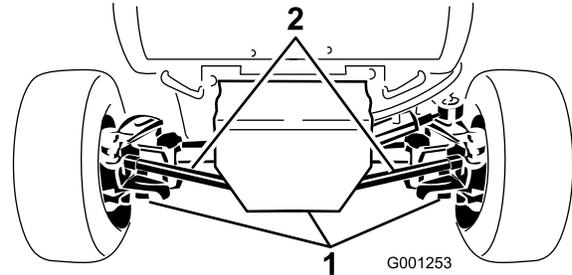

Figure 61
2. Clean the areas around the 3 drain plugs (Figure 61).